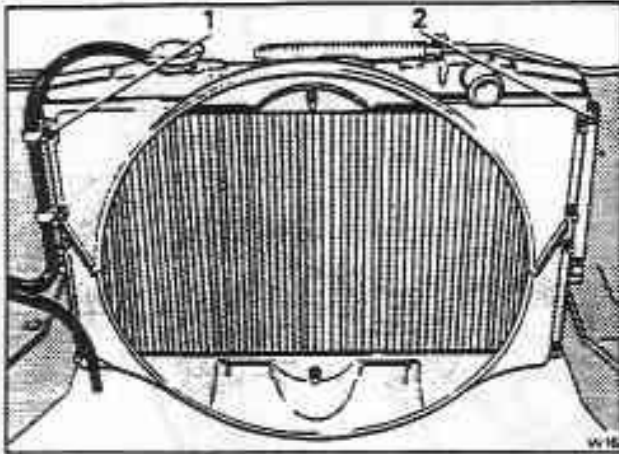

Fig. L2-5 Mounting points for radiator and fan cowl All cars other than Corniche
6. Fit the two halves of the fan cowl as shown in figures L2-5 and L2-6.
7. Fit the washers and cowl retaining nuts. On cars other than Corniche ensure that the two hose securing clips are fitted to the top two studs on the left-hand side (see fig. L2-5).